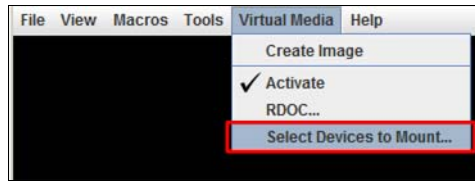

Figure 6-4 Starting virtual media
5. After Activate is selected, click **Select Devices to Mount** to mount an image to the remote server as virtual media, as shown in Figure 6-4.